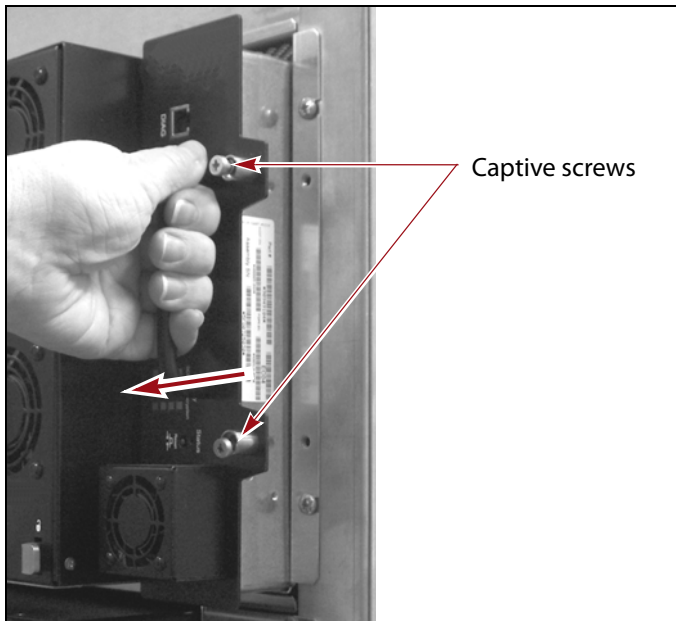

Figure 7 Remove a QIP, RIM or BEM.
- b.** Grasp the handle of the interface controller and pull it firmly out of the library (Figure 7).